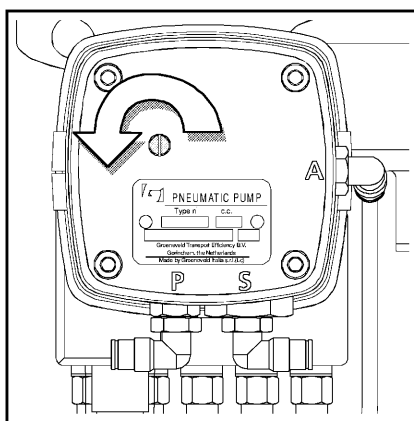

Fig. D8
1. Depress the test screw and slowly turn it counter-clockwise until the – possibly active- current lubrication cycle ends (air will escape from the pump) (fig. D8).